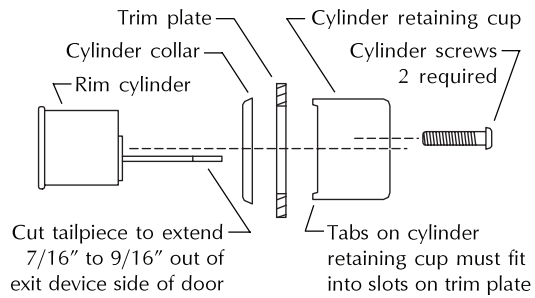

Figure 1
3. For NL trim, install cylinder (Figure 1), and install tailpiece guide in exit device cam (Figure 2).